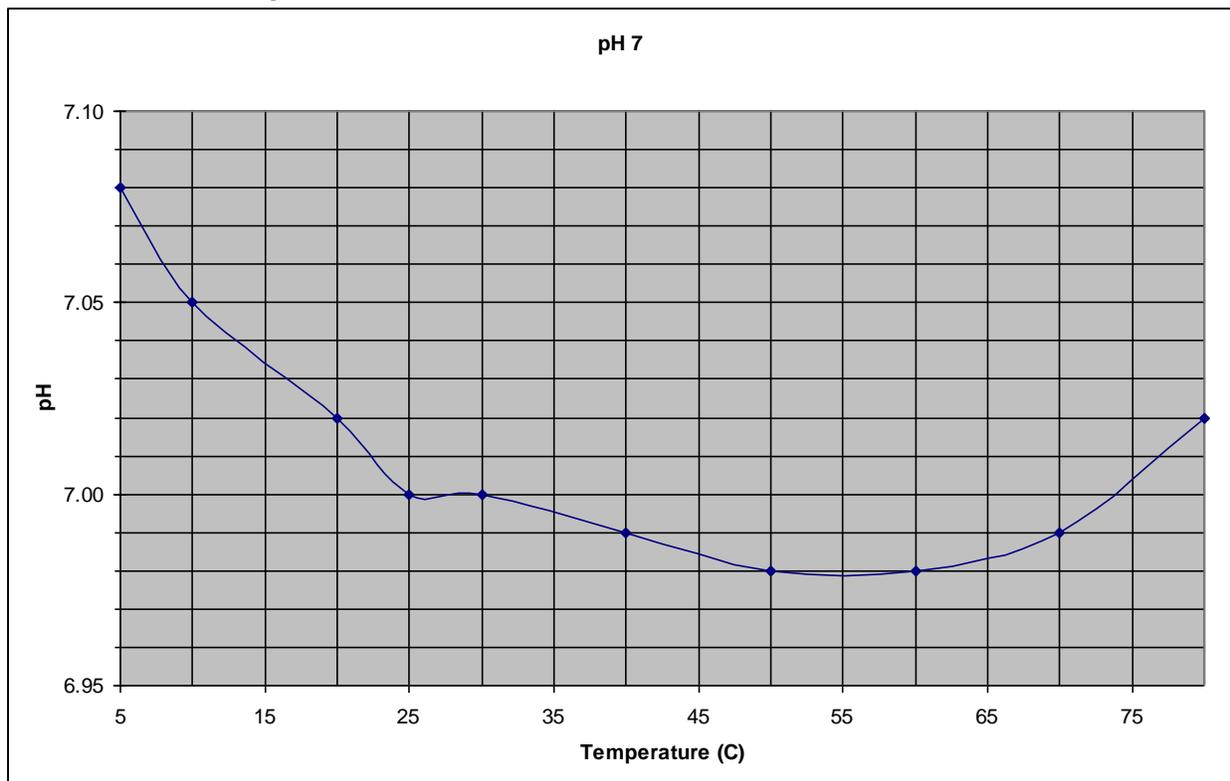

Figure 34. Temperature/pH curve for pH 7 Buffer Solution
7. Because the exact pH of a buffer varies (depending on its constituents) with its temperature, a table provided by the manufacturer must be used to determine the exact current pH of the buffer solution. **Refer to Figure 34 below or the chart hanging in the lab for the exact pH of a given buffer solution at the current temperature of the room.**